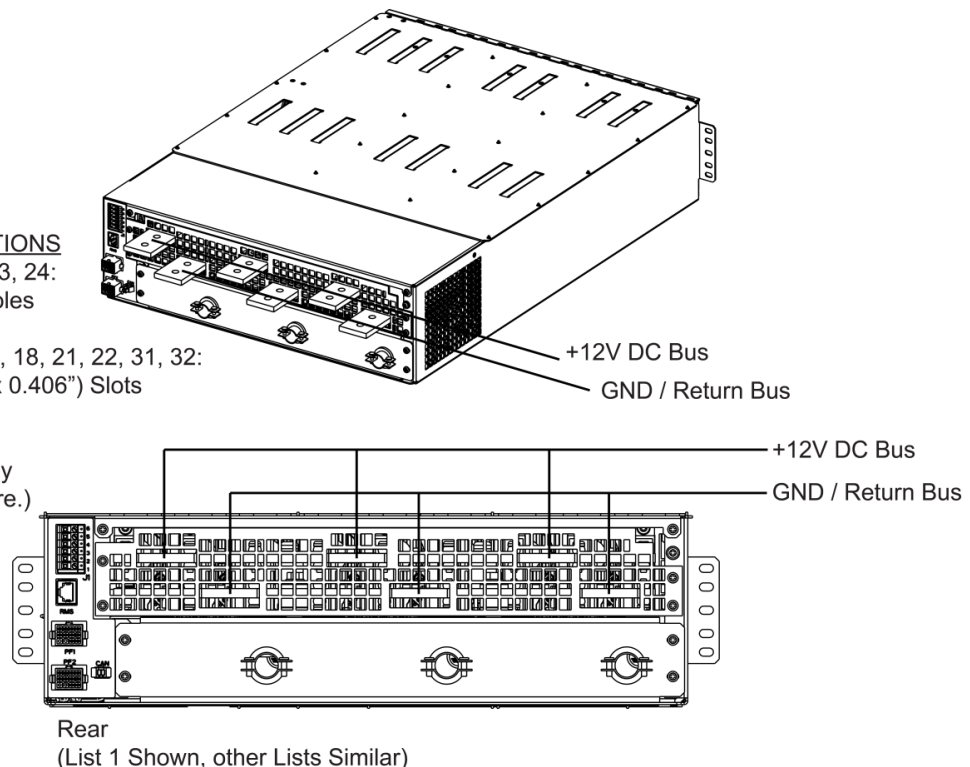

Figure 16
- +12 VDC and GND / Return output busbars are designed to accommodate the lugs listed in Table 1. Refer also to Figure 16.